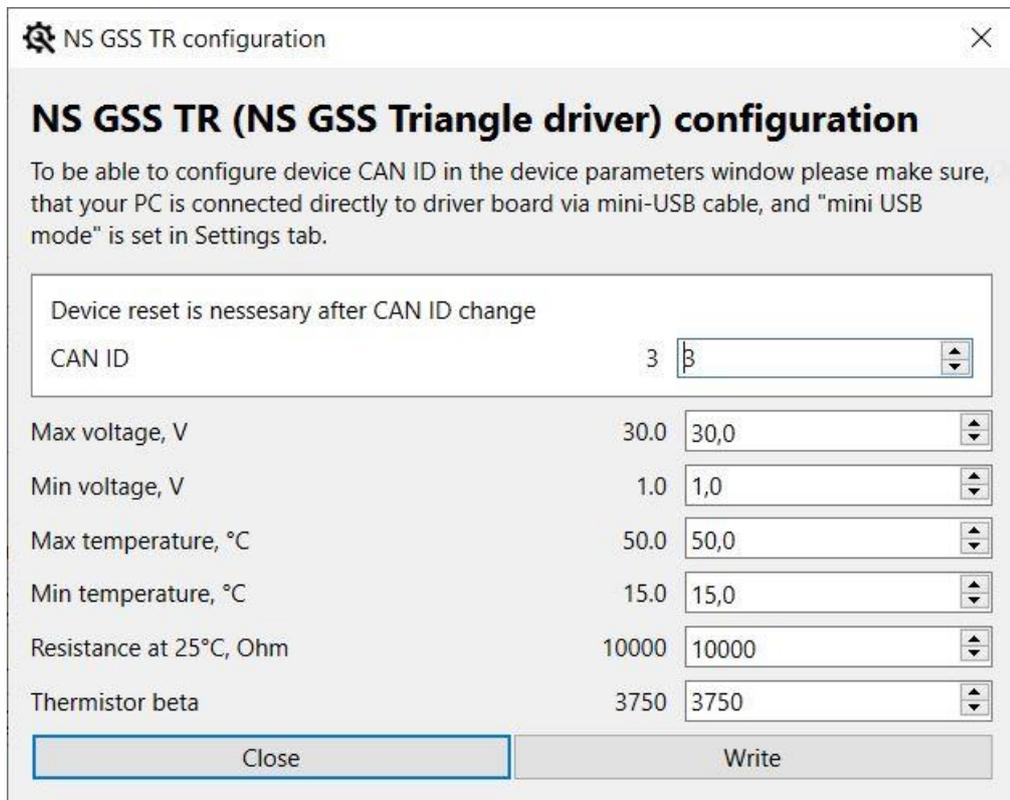

Figure 2: The laser diode setting menu
11. Click  icon located in the control panel's upper right corner to enter the driver setting mode. The driver setting mode allows entering laser diode parameters and the permitted range of laser operating conditions (fig. 2).
The system configuration window (fig. 2) is accessed by pressing "Settings" in the navigation bar. In this window the user can set the number of channels, CAN network ID and the names for the connected drivers.
The user can access the laser diode settings menu by pressing the wrench icon in the expanded main control view. The wrench icon will open a new individual menu for the connected laser diode, and the software applies the new settings only to that single diode. Available settings for pre-shaping drivers are shown in Figure 2.